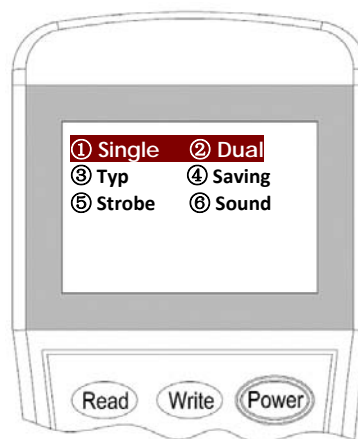

Figure 9
3. Input the **"1"** for **Single** Address mode or **"2"** for Dual Address mode then press **"Write"** to change the setting into the desire mode (Figure 9).